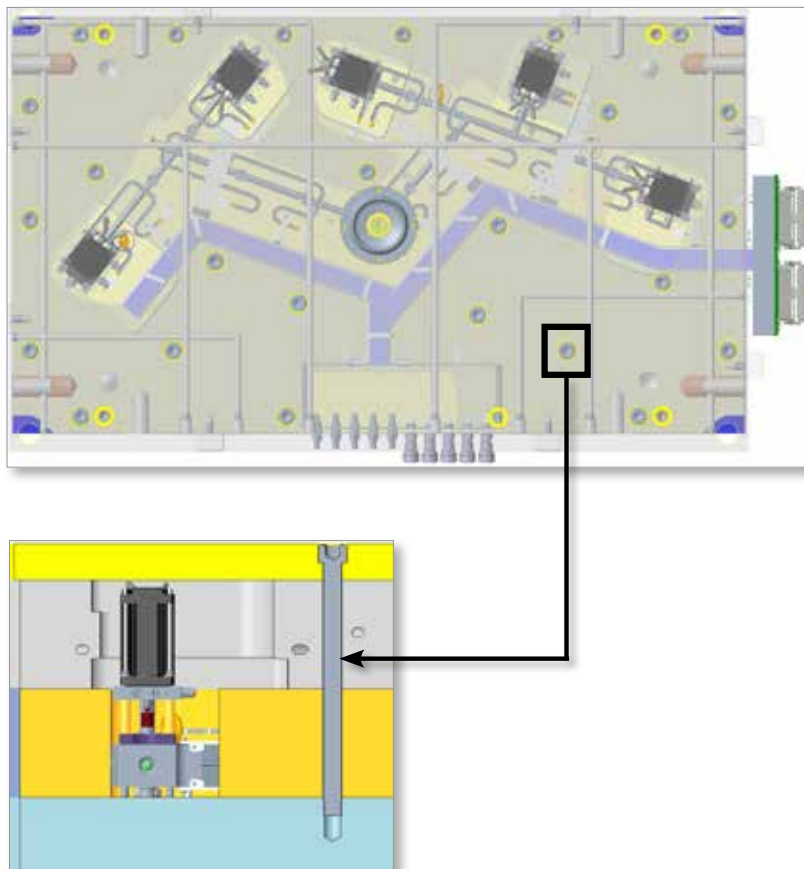

Figure 6-26 Remove B screws
3. Remove the B screws from the actuator plate and / or clamp plate. See Figure 6-26.